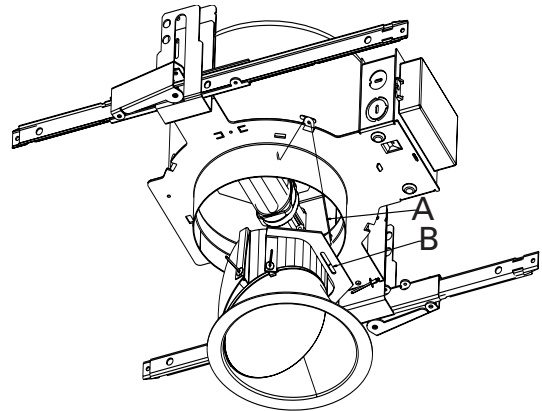

Figure 1
2. Install the trim by squeezing the butterfly spring "A" together and engaging it into the spring bracket "B" provided in the trim. Gently push the trim up until it is flush against the ceiling. Refer to Figure 1.